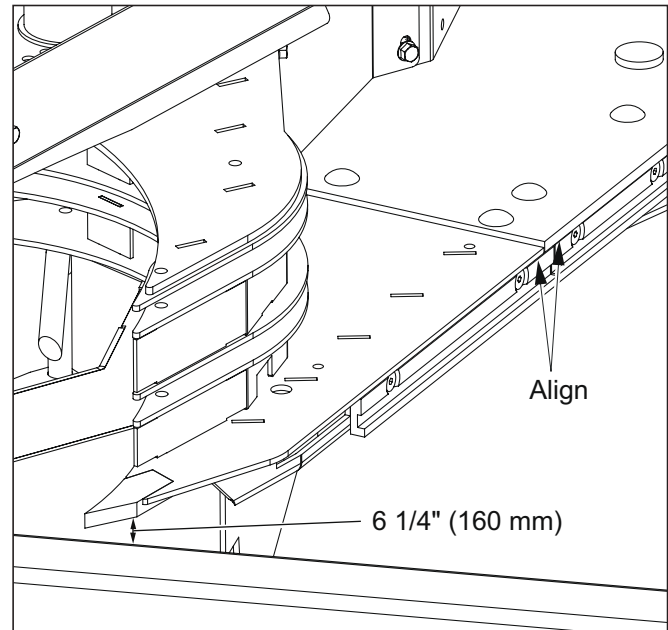

Figure 57 Scraper adjustment
SCRAPER ADJUSTMENT - FIGURE 57
3. Align the chain channel ridge with the frame ridge (figure 57).
4. Position the scraper to obtain 6 1/4" (160 mm) between the cross beam and the bottom of the scraper's lower plate (figure 57).